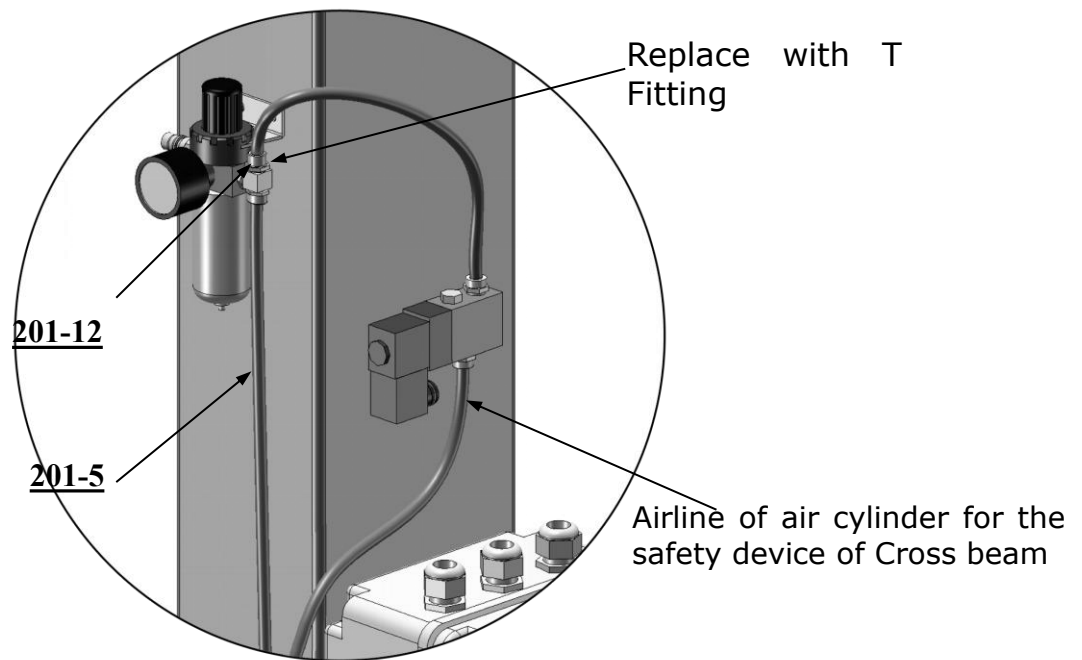

Fig. 49
1.2. Connecting air solenoid valve(Fig.49).